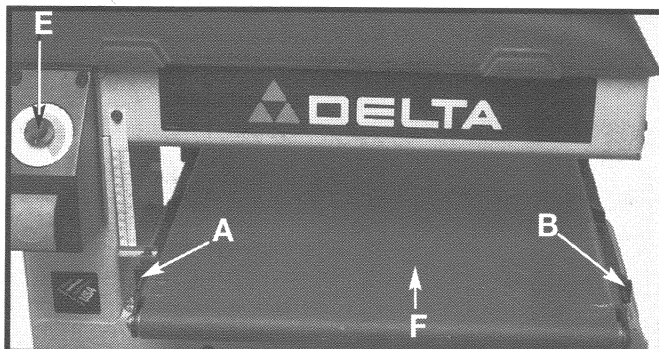
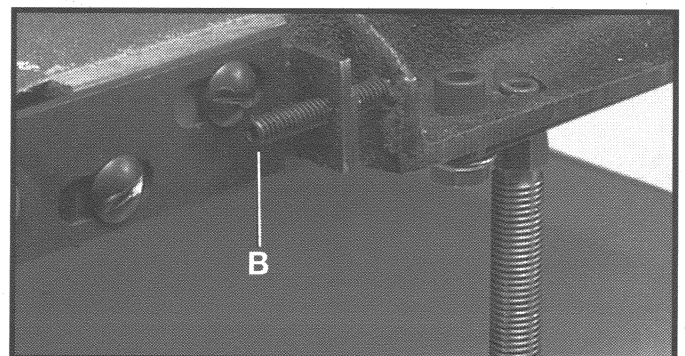

Fig. 17A
Fig. 17B
1. The tracking and tensioning of the feed belt has been set at the factory. Before making any adjustments place a reference mark on the table on either side of the belt using a lead pencil. Using a visual aid mark will help the user observe the direction of belt movement over time. Turn feed/speed knob (E) Fig. 17A "ON" and adjust to the **maximum speed**. Let the belt run and observe tracking direction. If the belt does not make any measurable side movement within five minutes of running, no adjustment is needed.
2. If belt (F) is tracking **to the right**, use the 1/8" T-handle hex wrench provided. Turn the right set screw (B) Fig. 17A clockwise 1/4 turn or less.
3. If belt (F) is tracking **to the left**, use the 1/8" T-handle hex wrench provided. Turn the right set screw (B) Fig. 17A counterclockwise 1/4 turn or less.
5. To adjust belt tension, turn both set screws (A) and (B) Fig. 17A (one is shown at (B) Fig. 17B) clockwise in 1/4 turn increments, until the feed belt is tensioned sufficiently to prevent slipping. **NOTE:** When adjusting belt tension, **turn both set screws the same amount**. **DO NOT** over tension the belt. Excessive tension will cause premature wear of belt, bearings and overload the motor. Listen for motor load speed changes when adjusting belt tension.